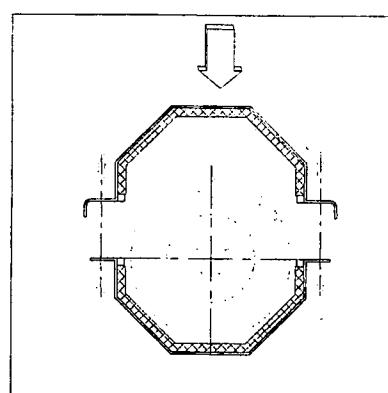

Figure 5.2g
8. Bolt the octagonal lids back onto the octagonal trough (*Figure 5.2g*).